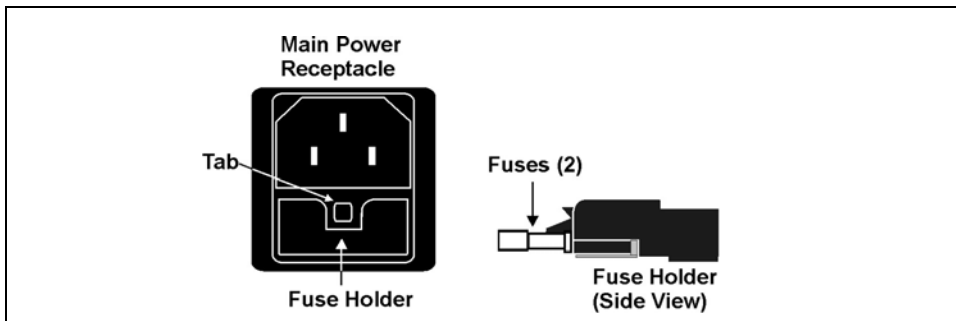

Figure 5-34. Main Power Fuse Holder
2. The fuse holder is part of the main power receptacle (see Figure 5-34) on the Dionex ICS-2100 rear panel. To remove the fuse holder, squeeze the tab on the top of the holder to release it and pull the holder straight out of its compartment.